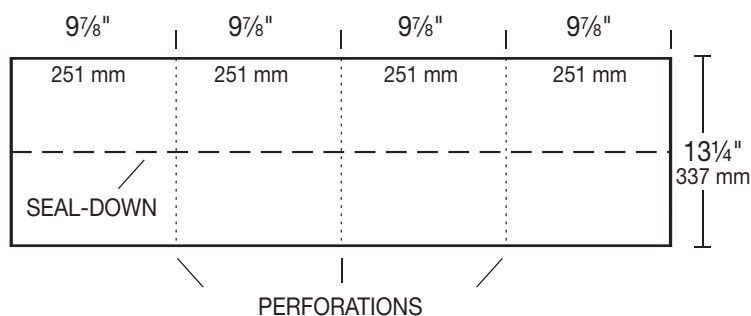
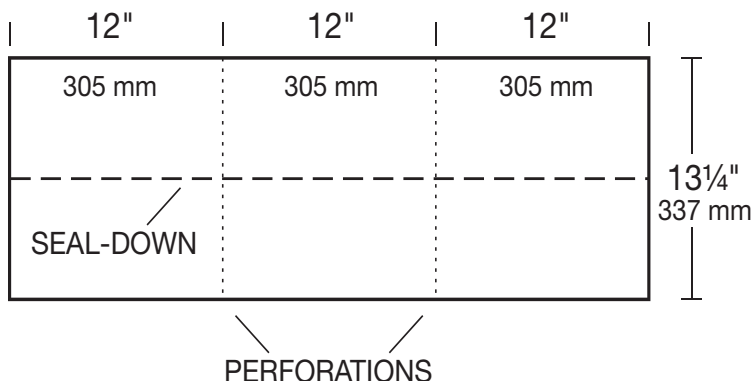

Figure 16 - 10" RidgeFlex™ Hip and Ridge Shingle
Figure 17 - 12" RidgeFlex™ Hip and Ridge Shingle
Prepare for application by separating each hip and ridge shingle at the perforations: The 10" RidgeFlex™ produces four (4) individual hip and ridge strips (see Figure 16), and the 12" RidgeFlex™ produces three (3) (see Figure 17). Note the seal-down strips.